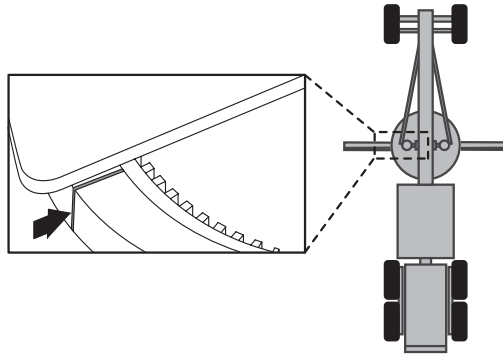

Figure 4-4. Rotate Blade to Chisel Marks
2. Rotate the machine's blade to the chisel marks the installer provided on the A-frame assembly (Figure 4-4).